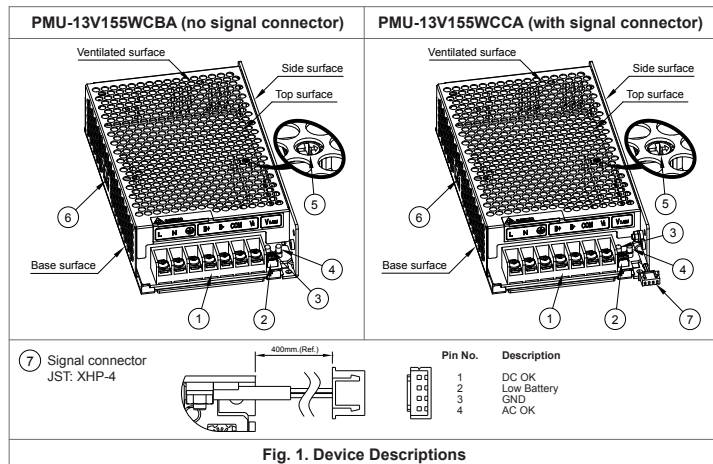

Fig. 1. Device Descriptions
- Must select correct AC input voltage range through selectable switch before turning on (Refer to Fig. 1, (6)).
Refer to Fig. 1.:
- ① Input & Output terminal block connector
- ② DC voltage adjustment potentiometer (12V - 14V)
- ③ Green LED ON = DC OK (Normal operation through mains supply or through battery when operating in buffering mode)
- ④ Red LED ON = Battery reverse polarity
- ⑤ Battery charging current adjustment potentiometer (Factory Setting: 1A)
Max charging current shall not exceed 1.5A (Refer to Fig. 1, (5)).
- ⑥ AC selectable switch
- ⑦ Signal connector - JST: XHP-4 (for PMU-13V155WCCA only)
- Must select correct AC input voltage range through selectable switch before turning on (Refer to Fig. 1, ⑥).
Max charging current shall not exceed 1.5A (Refer to Fig. 1, ⑤).
- ⑦ Signal connector - JST: XHP-4 (for PMU-13V155WLCA only)